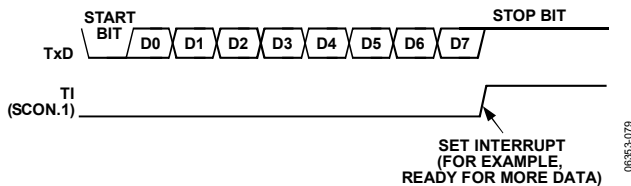

Figure 98. 8-Bit Variable Baud Rate
Transmission is initiated by a write to the Serial Port Buffer SFR (SBUF, 0x99). Next, a stop bit (1) is loaded into the ninth bit position of the transmit shift register. The data is output bit-by-bit until the stop bit appears on TxD and the transmit interrupt flag (TI) is automatically set as shown in Figure 98.